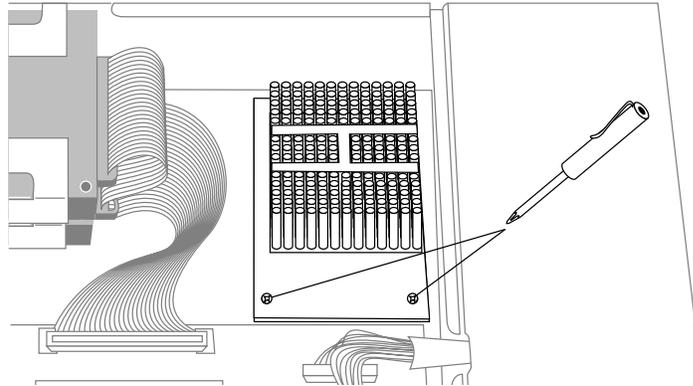

Figure 1-40 Removing the Screws From the CPU Module
- Using the Phillips screwdriver provided, remove the two screws that connect the CPU module to the system board, as shown in Figure 1-40.